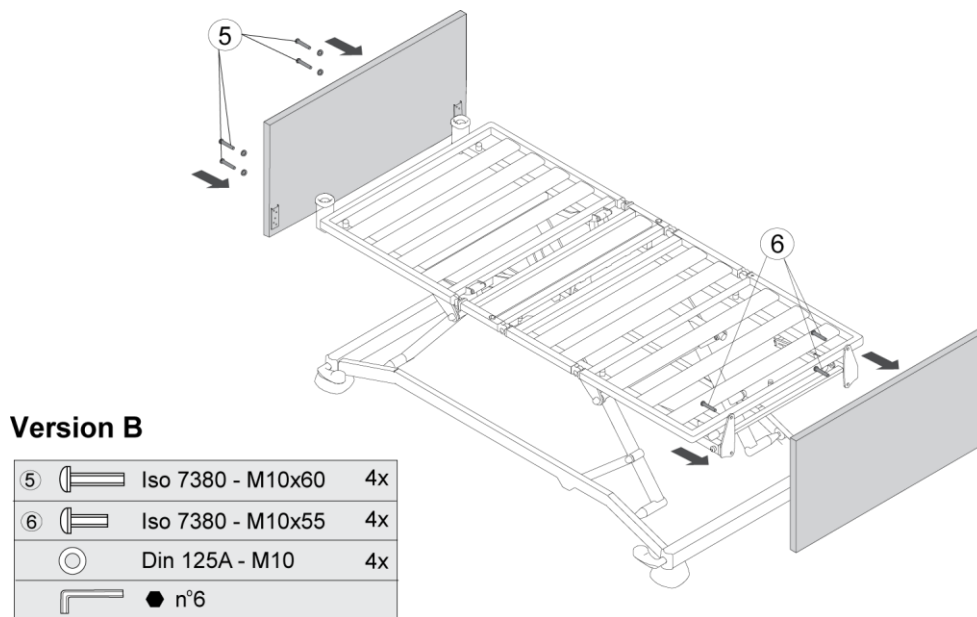

Figure 5.8: Assembly of the head and foot panel Soft-version B
- Assemble the head and foot panel by using the bolts shown in fig 5.8